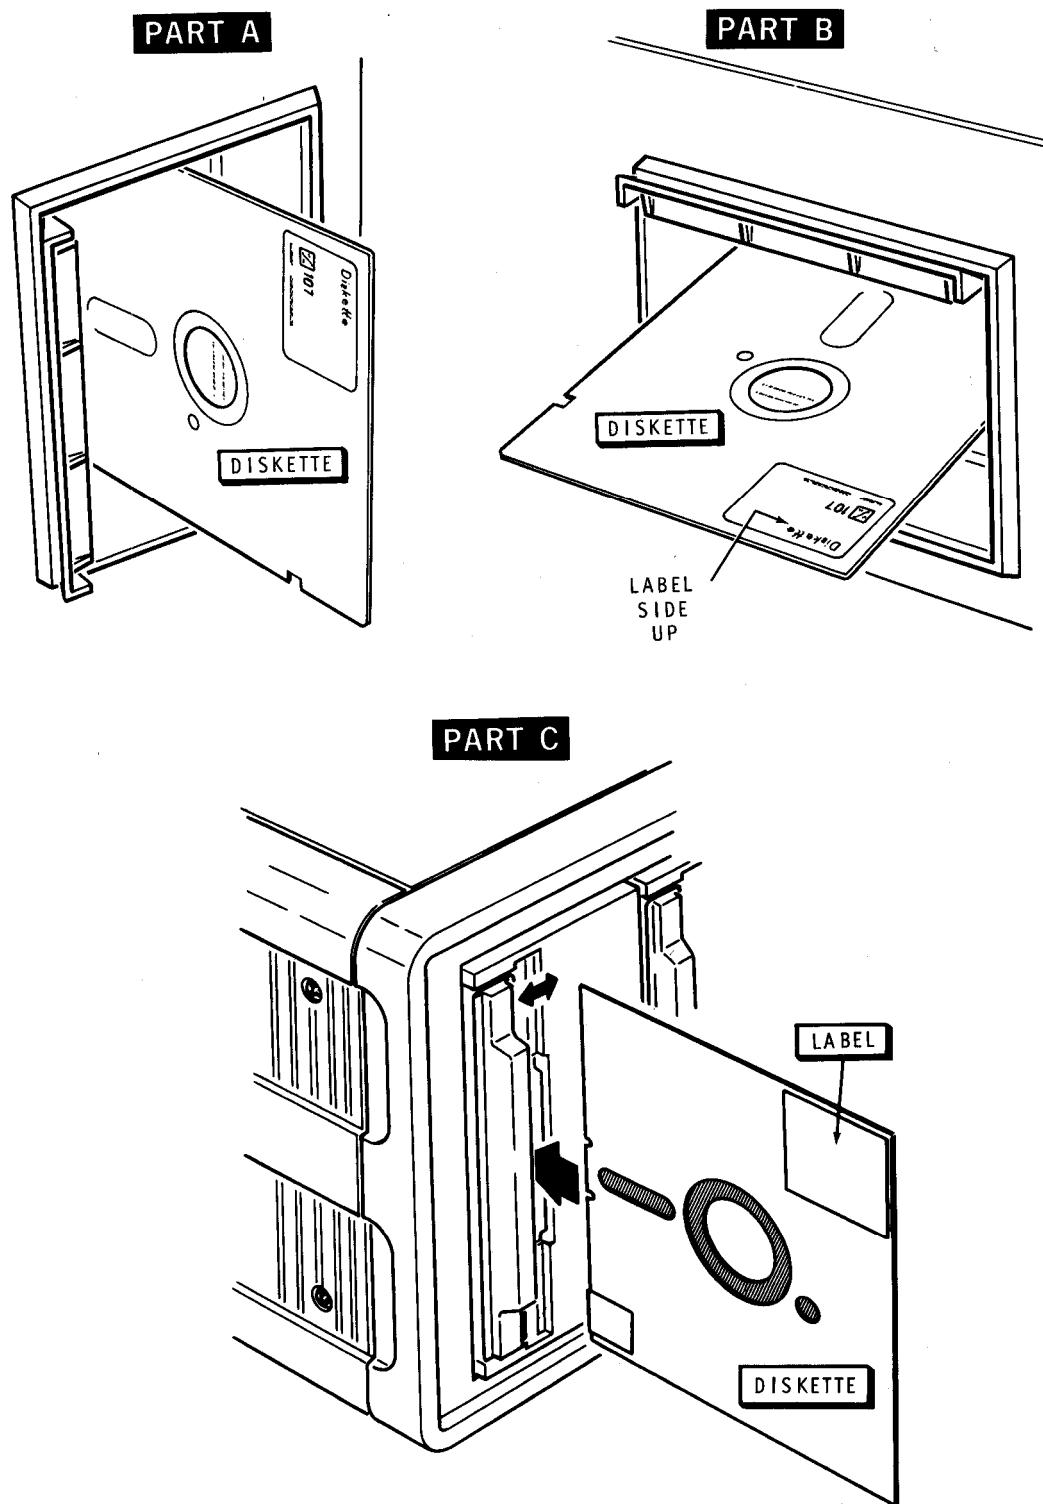

Figure 1-2
- ( ) 3. Insert the distribution diskette into the drive that has been hardware configured as primary boot drive **8** (see Figure 1-2). Close the door of the drive unit after you have inserted the diskette.